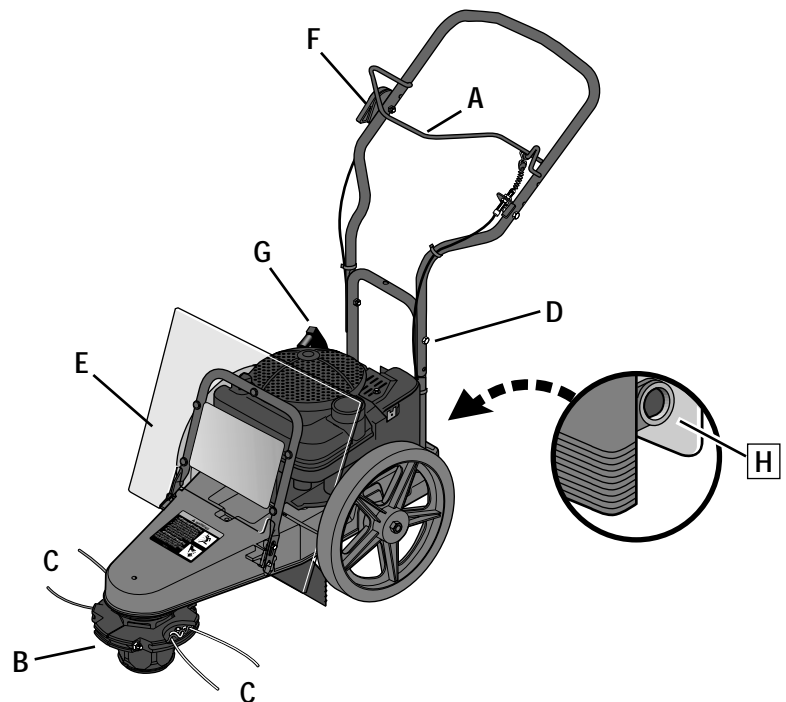

Figure 3-1: Features and controls
Pull the control bail (A, Figure 3-1) up against the handlebar (engage bail) to start rotation of the trimmer head. Let go of the control bail (disengage bail) to stop the trimmer head.
The trimmer head (B, Figure 3-1) is adjustable to an infinite number of height settings from 1-1/2" to 4-1/2" (see "Adjust Line Cutting Height" in Section 4).
The two trimming lines (C, Figure 3-1) are secured to wire-looped line holders. Replacing the trimmer lines is easy (see "Changing Trimmer Lines" in Section 5).
The handlebar (D, Figure 3-1) has two height settings (see "Adjust Handlebars" in Section 4).
A heavy-duty plastic shield (E, Figures 3-1 and 3-1A) prevents debris build-up on the engine. The shield tilts forward for access to the engine.
Use this lever (F, Figure 3-1) to change engine speeds and to stop the engine. The throttle settings are shown on a decal next to the lever.
The recoil starter (G, Figure 3-1) is used to pull start the engine.
The fuel primer button (H, Figure 3-1) allows a cold engine to be primed for faster, easier starting.
1. Lift and tilt plastic debris shield (E, Figure 3-1) forward.